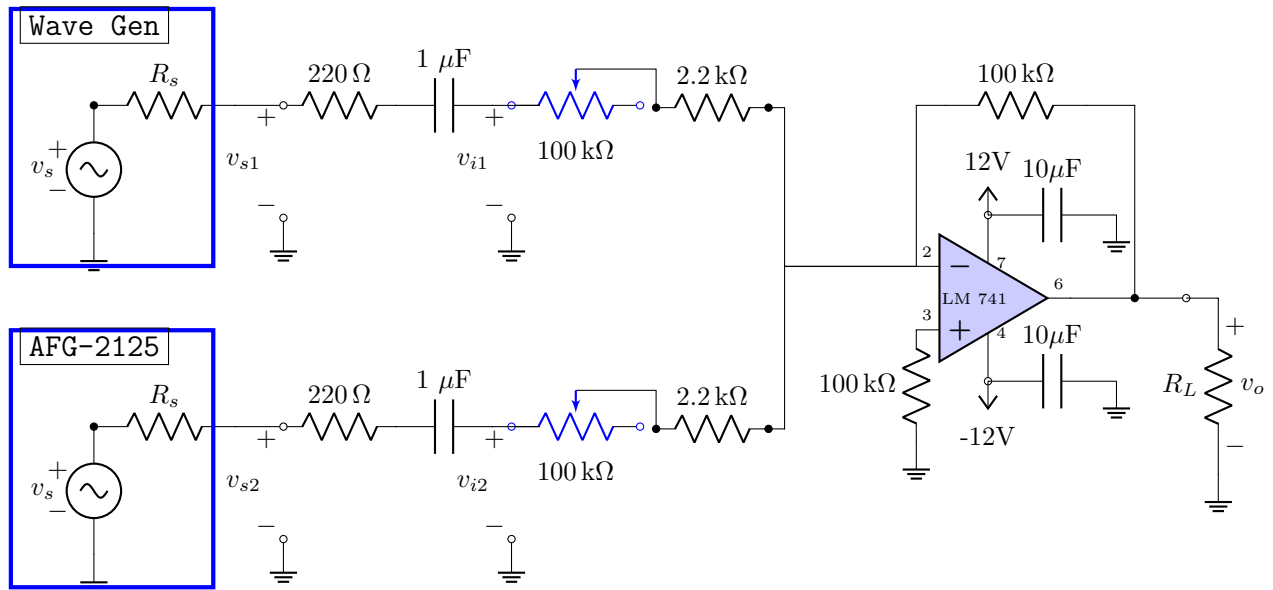

FIG. 6: Circuit diagram of a two-channel summing amplifier with variable gain
Consider the two-channel summing amplifier shown in Fig. 6. As the name implies, signals from two sources, v_{s1} and v_{s2} are summed and amplified by the LM 741 circuit [1, Sec. 5.4]. Furthermore, it is the same as the VGA circuit with the addition of a second source and replicating the components
Step 1 *Turn the power supply off.* Connect the circuit shown in Fig. 6. In this circuit, v_{s1} is generated using the DSOX1204G's built-in waveform generator and v_{s2} is generated using an external waveform generator AFG-2125.